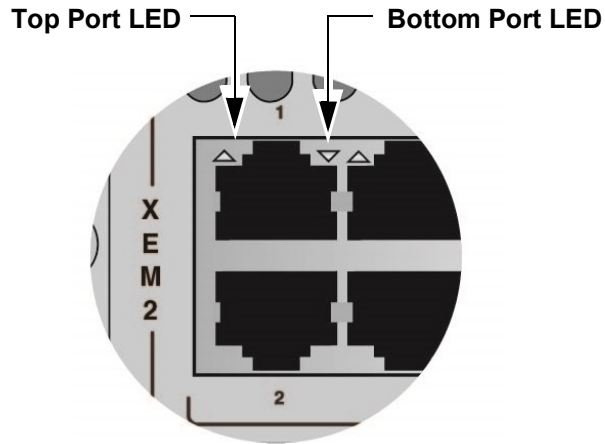

Figure 4. Link and Activity LEDs for Ports 1 to 24 on the x950-28XTQm Switch
**LEDs** This section explains the LEDs for the 100Mbps and 1/2.5/5/10Gbps twisted pair ports on the x950-28XTQm Switch. Each port has one LED that displays link and activity information. The LEDs are shown in Figure 4.